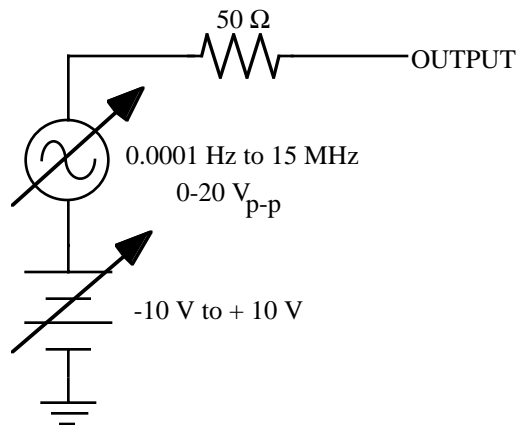

Figure 3. Functional circuit of a signal generator
The signal generator is a voltage source which can produce various time dependent signals waveforms from 0.0001 Hz to about 15 MHz. We have not used the terminology peak-to-peak in class but it means the voltage from the most positive point of a voltage waveform to its most negative point. Typically, a waveform such as a sine wave is symmetric about zero but, for various reasons, you may need to shift the entire waveform by adding a voltage in series with it. This is known as an offset voltage. The signal amplitude of the function generator is adjustable up to about 20 volts peak-to-peak (20 V_{p-p}) with an adjustable DC offset of up to 10 volts positive or negative. The generator has a 50 ohm output impedance (see Figure 3) which can affect your selection of resistor values in several experiments.
Pay careful attention to procedure for setting the output impedance of the signal generator. This does not actually change the resistance in Figure 3, but changes how the output voltage is calculated. For example, if you placed a 50Ω load on the generator and programmed the generator in 50Ω mode to output 1 volt, then you would really get 1 volt as measured by an external meter. However, if you put a 1000Ω (a high impedance) load at the output of the generator and you were still in 50Ω mode, almost all of the generator voltage would be developed across the load resistance because it is so much larger than the 50Ω resistance of the generator. Programming the generator to HIGH Z will let the generator know that all of the voltage will be developed across the high impedance load and it will adjust its scale so that the programmed output is what you will really measure.
2. Referring to Figure 3 in the lab: “If the maximum amplitude of the signal is 2.5 volts, and the minimum amplitude is -3 volts, what is the DC offset? Explain your answer.
ANSWER: The signal is symmetric about the DC offset. In this case the signal amplitude is $2.5 - (-3) = 5.5$ volts. The center (average) value of this waveform is +2.75 volts. The DC offset (the value of the DC source in Figure 3) is then +2.75 volts. Many people got the sign of the offset wrong (-1/2).
4. Using Figure 3, explain what setting the output impedance of the function generator to high impedance does.